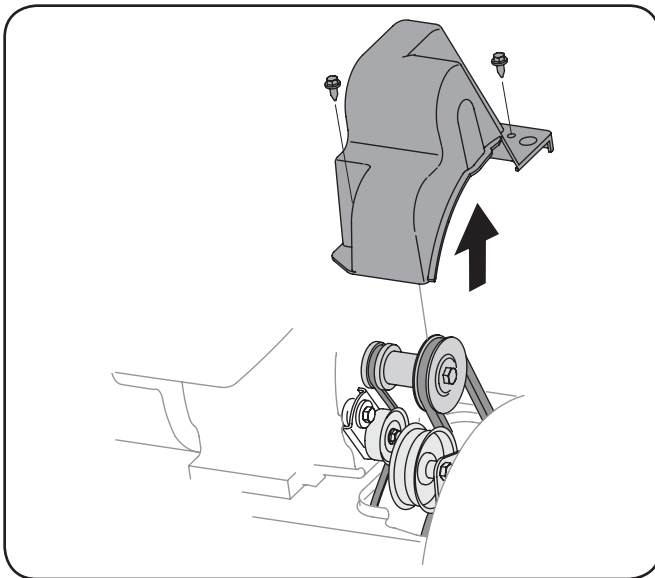

Figure 7-1
2. Remove the plastic belt cover at the front of the engine by removing the two self-tapping screws. See Fig. 7-1.
2. Remove the plastic belt cover on the front of the engine by removing the two self-tapping screws. Ref. Fig. 7-1.